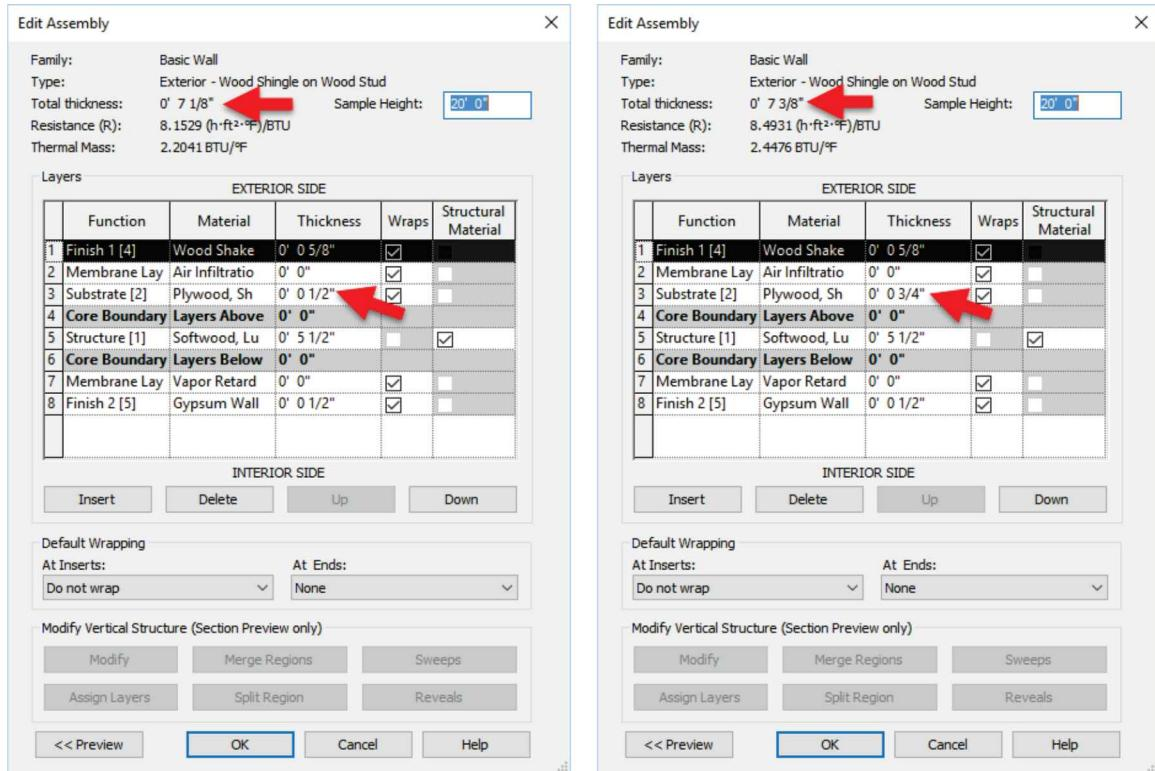

FIGURE 6-1.5A & B Comparing two walls' properties; sheathing thickness varies
8. Take note of the overall wall thickness and the thickness of the various layers (Figure 6-1.5A).
NOTE: The sheathing thickness is not the same (Figures 6-1.5a and b). You will change one so they both match.